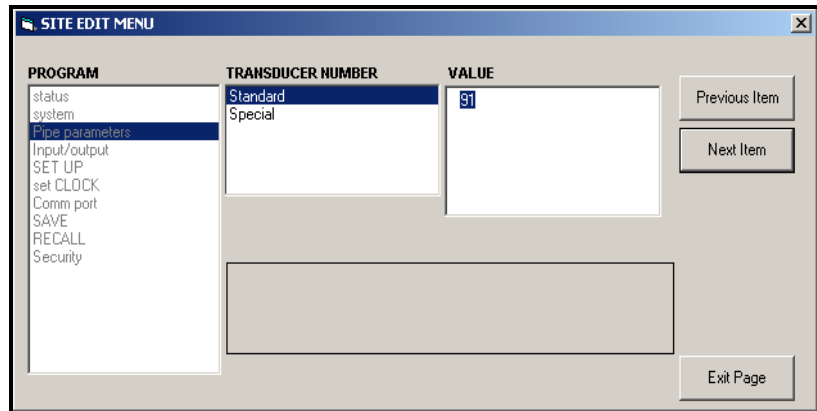

Figure C-21: The Pipe Parameters Option in the Site Edit Menu
- a. Highlight and double-click on the desired option in the left pane. Figure C-21 below shows the first entry (Transducer Number) in the *Pipe parameters* option. The title above the center pane lists the current entry, while the center pane displays the available selections for that entry.